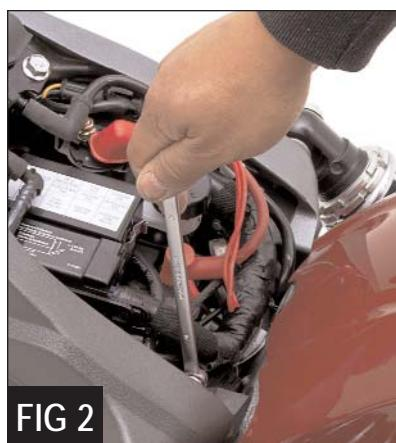
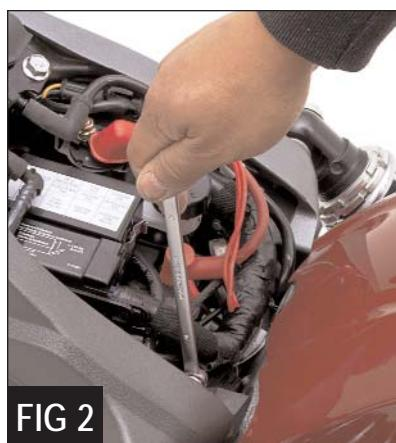

FIG 3
FIG 4
4. Using a 10mm socket wrench, disconnect the battery positive terminal (*Figure 3*) and attach the positive wire to the battery (*Figure 4*).